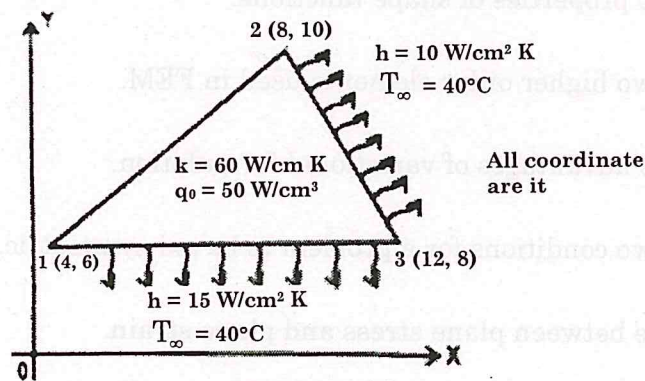

Figure 13(a)
13. (a) Compute the element matrices and vectors for the element shown in figure 13(a) when the edges 2-3 and 1-3 experience convection heat loss.